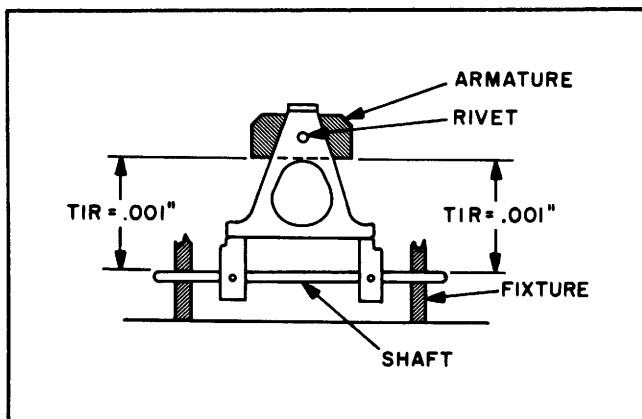

Figure 6-11. Parallelism Settings
6-4-10-1. While the unit is disassembled, check that the armature is parallel with the pinch roller shaft. If found not to be parallel within the prescribed tolerance as outlined below, the frame and armature must be replaced. The armature (27) is made parallel to the pinch roller shaft (12) during assembly at the factory and is locked in place by rivet (28). A fixture is used during this assembly which holds the shaft parallel to a flat surface. See figure 6-11. The armature is made parallel to within a total indicator reading (TIR) of 0.001" with respect to the shaft and locked in place by the armature rivet.